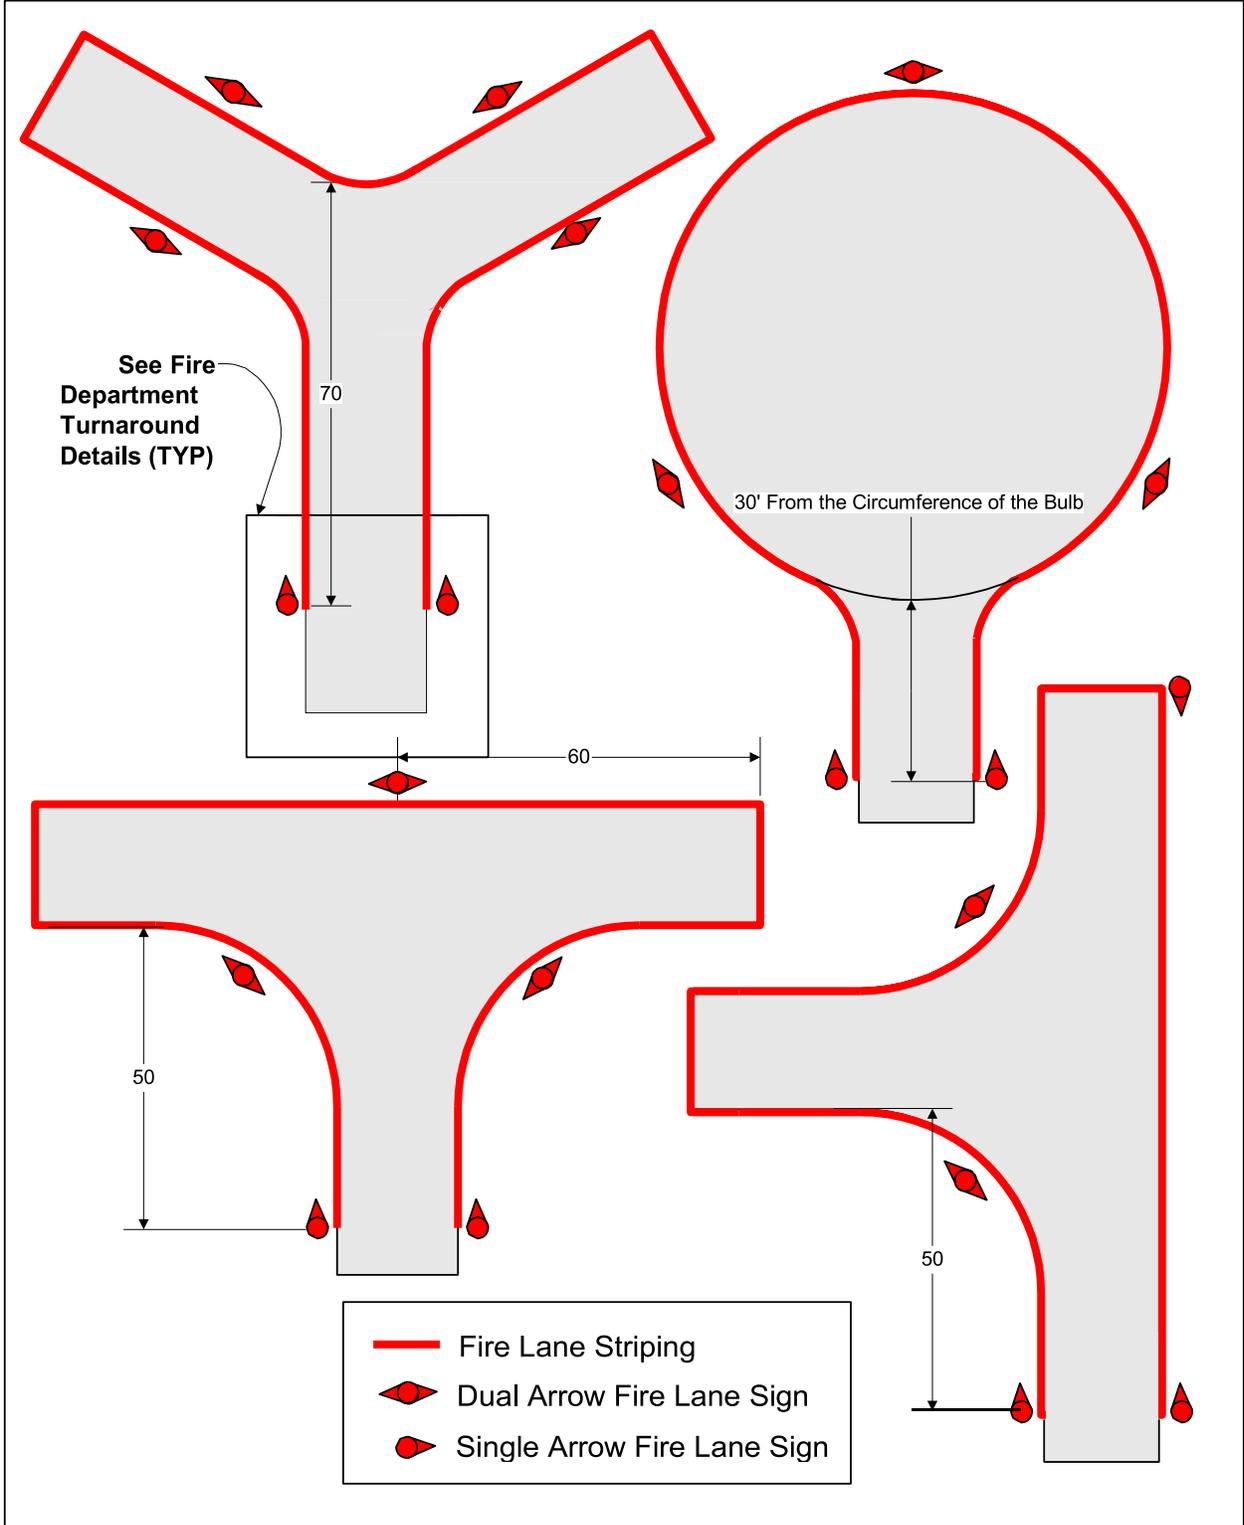

Figure 4 - Fire lane marking requirements for various FD turnarounds
1.4. **Fire Department Required Turnarounds.** When a fire department turnaround is required for a given site, the turnaround shall be marked as indicated in Figure 4. Note that both fire lane signage and fire lane striping is shown. This is for illustration purposes only. Either the signage or striping is required. However, both methods may be used if desired.